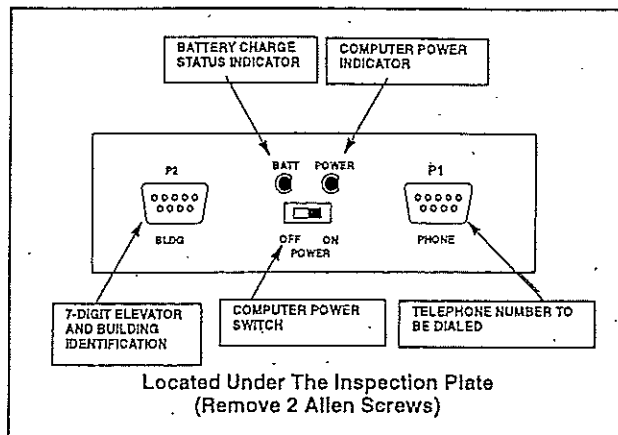

Figure 3
- b. Connect the programmer D-Shell connector to the right hand connector. See Figure 3.